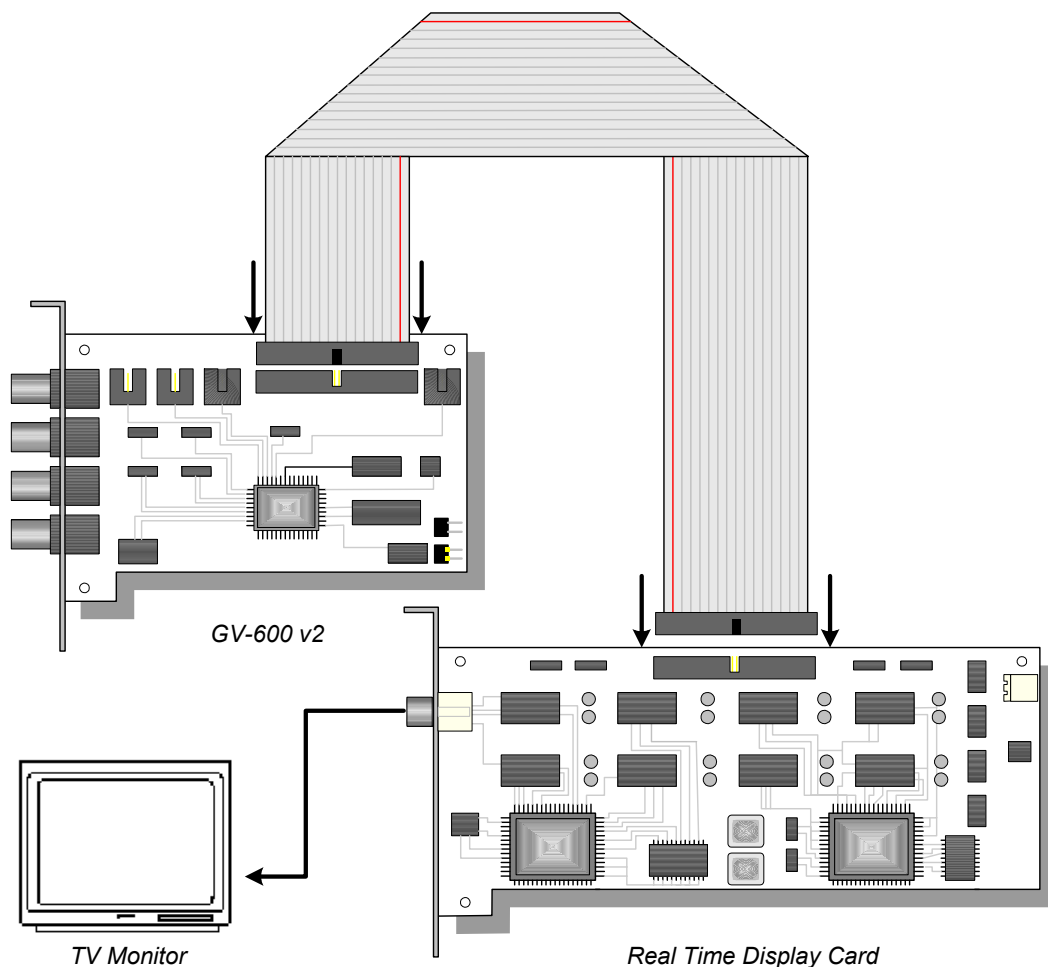

Figure 1-4 Connecting the DSP card to the video capture card and to TV monitor
- Output to TV monitor through TV output, as shown in Figure 1-4.
1. Connect the ribbon cable to the DSP card and to the video capture card, as illustrated in Figure 1-4.